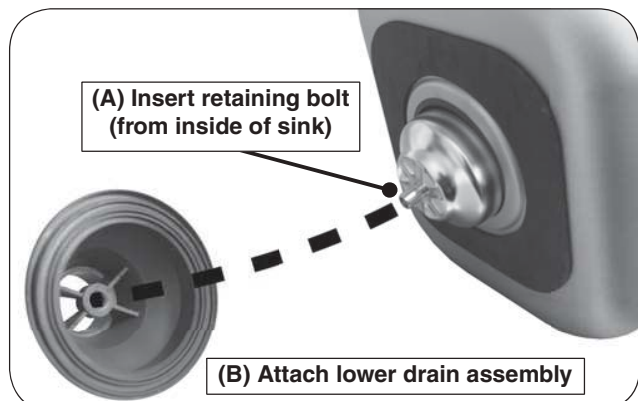

Fig. 2-4 Insert retaining bolt and attach lower drain
4. Insert the retaining bolt into the upper drain fitting. With the grooved gasket resting in the lower drain assembly, orient the assembly against the bottom of the sink, align with the retaining bolt, and **hand tighten**. See Fig. 2-4.